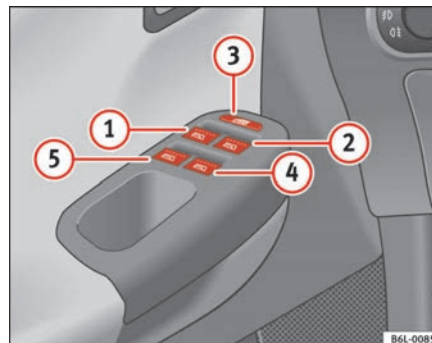

Fig. 52 Detail of driver door: controls for the front and rear windows
The buttons $\Rightarrow$ page 84, fig. 52 ① and ② have two levels for opening the window and two for closing it. This makes it easier to open or close windows to the desired position.